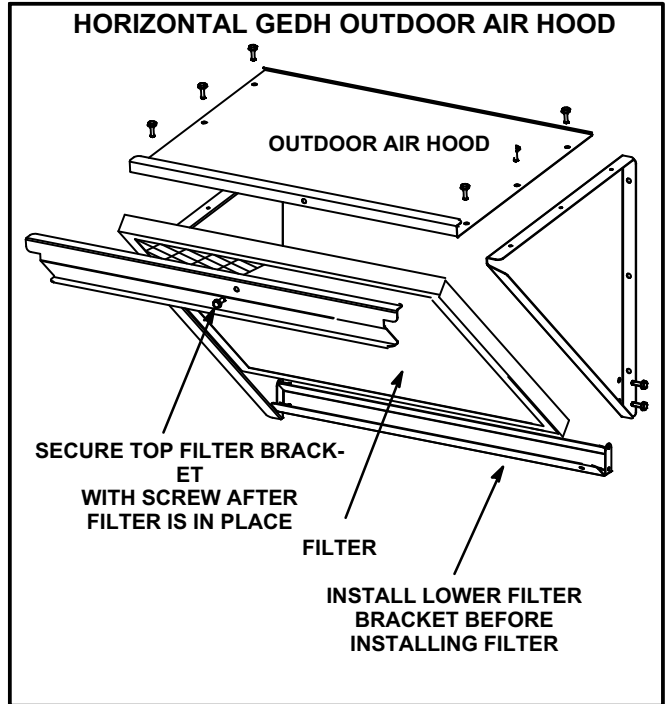

FIGURE 11
- 7- Install the upper hood on the unit as shown in figure 11.